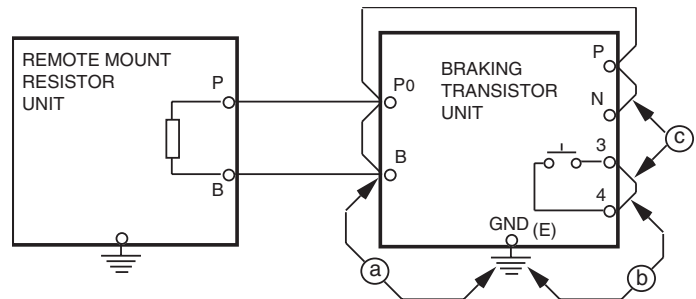

Figure A6-6. Megger Testing Set-up
b. Connect common leads (jumpers) across Braking Transistor Unit terminals N, P, Po, and B, and across 3 & 4, as shown in Figure A6-6.
c. Measure the insulation resistance at points a, b, and c in Figure A6-6 with the megger.